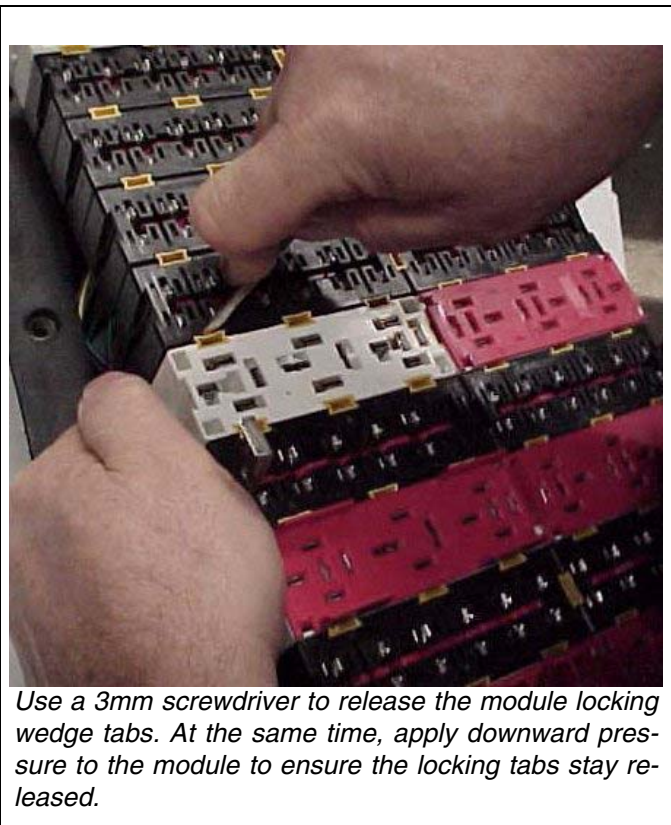

Figure 15-18
- a. With a 3mm screwdriver, release the 6 yellow locking wedge tabs on one side of the defective module and the module next to it. See Figure 15-18.